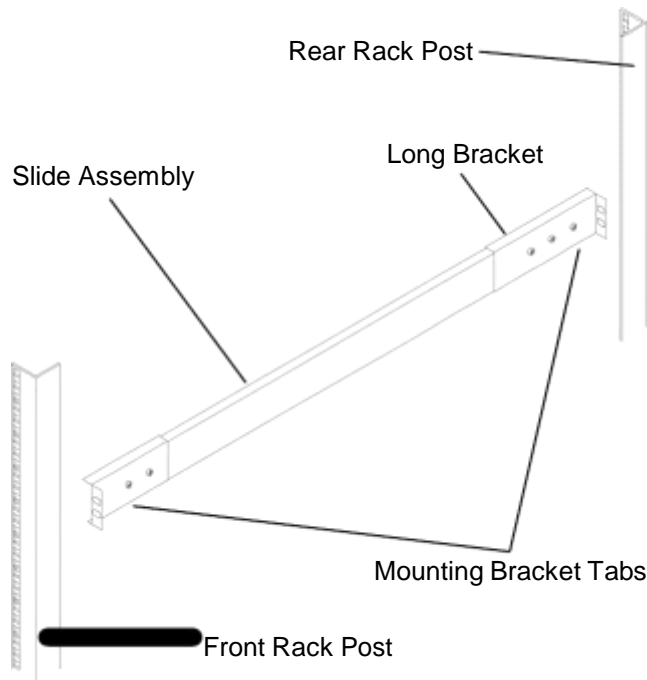

Figure 5-19 Slide Assembly Between the Front and Rear Rack Posts
2. Position a slide assembly between the front and rear rack posts to determine how far the brackets need to be moved so that the mounting holes of the brackets will be in contact with the outside edge of the rack posts. Note that the long bracket must be mounted at the rear of the rack. Refer to Figure 5-19.